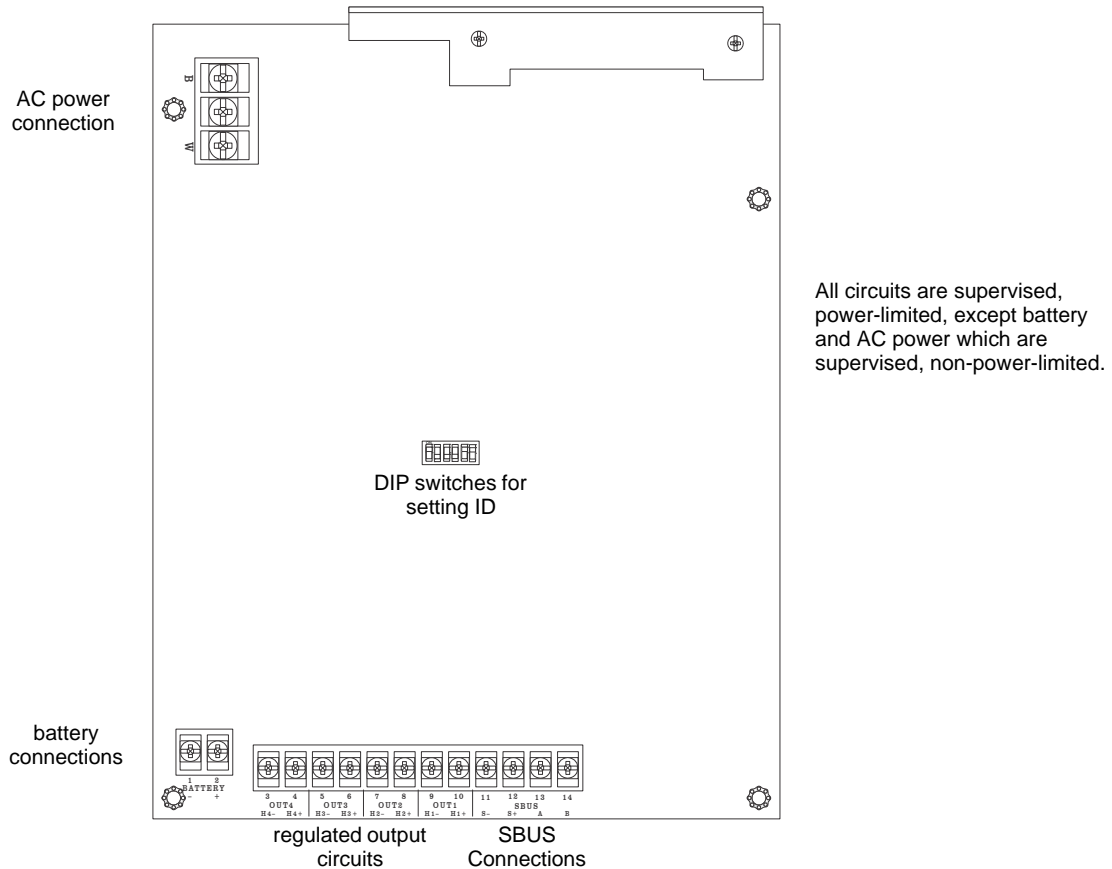
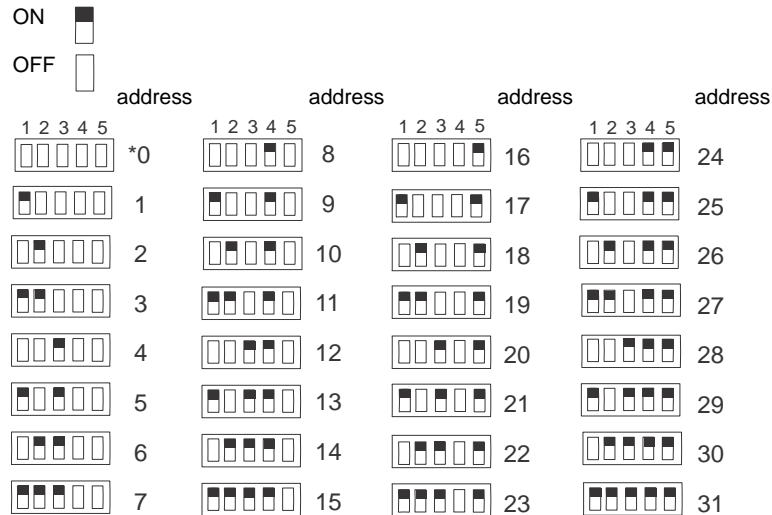

Figure 3.1 5496 Board Layout
Figure 3.6 Possible Module Addresses
Figure 3.1 shows the 5496 circuit board including the location of terminals and the DIP switch for setting the module ID.
2. Use the onboard DIP switch to assign an ID number to the 5496. (Refer to Figure 3.6) Figure 3.1 shows the location of the DIP switches on the 5496 board.
All SBUS modules in the system must have a unique number (1-31) to identify them to the FACP. Use the DIP switch on the 5496 board to set the module ID number. Figure 3.1 shows the location of the DIP switch on the board. Figure 3.6 below shows DIP switch settings and the corresponding module ID numbers. Note that address #0 is invalid and cannot be used.